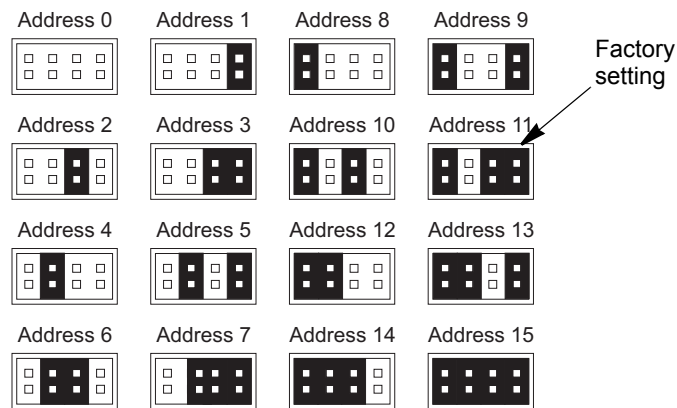

Figure 2-2 SCSI ID settings
- a. The tape drive is shipped with a SCSI ID of 11. If another device on the SCSI bus is already configured with this SCSI ID, you will need to change the tape drive's SCSI ID. Reposition the jumpers on the jumper block, as shown in Figure 2-2, to select the desired ID. (If necessary, use flat-nose pliers to remove the jumpers.) If you need an additional jumper, use a 2 mm jumper.